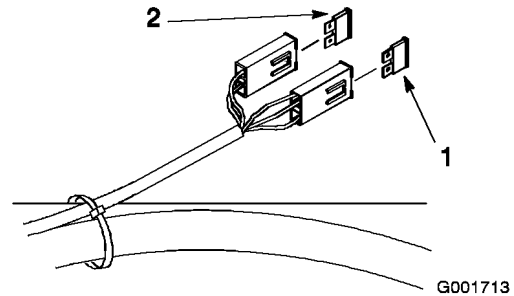

Figure 41
1. Unlatch the seat and raise the seat to gain access to fuse holder (Figure 41).
3. Install a new fuse (Figure 41).